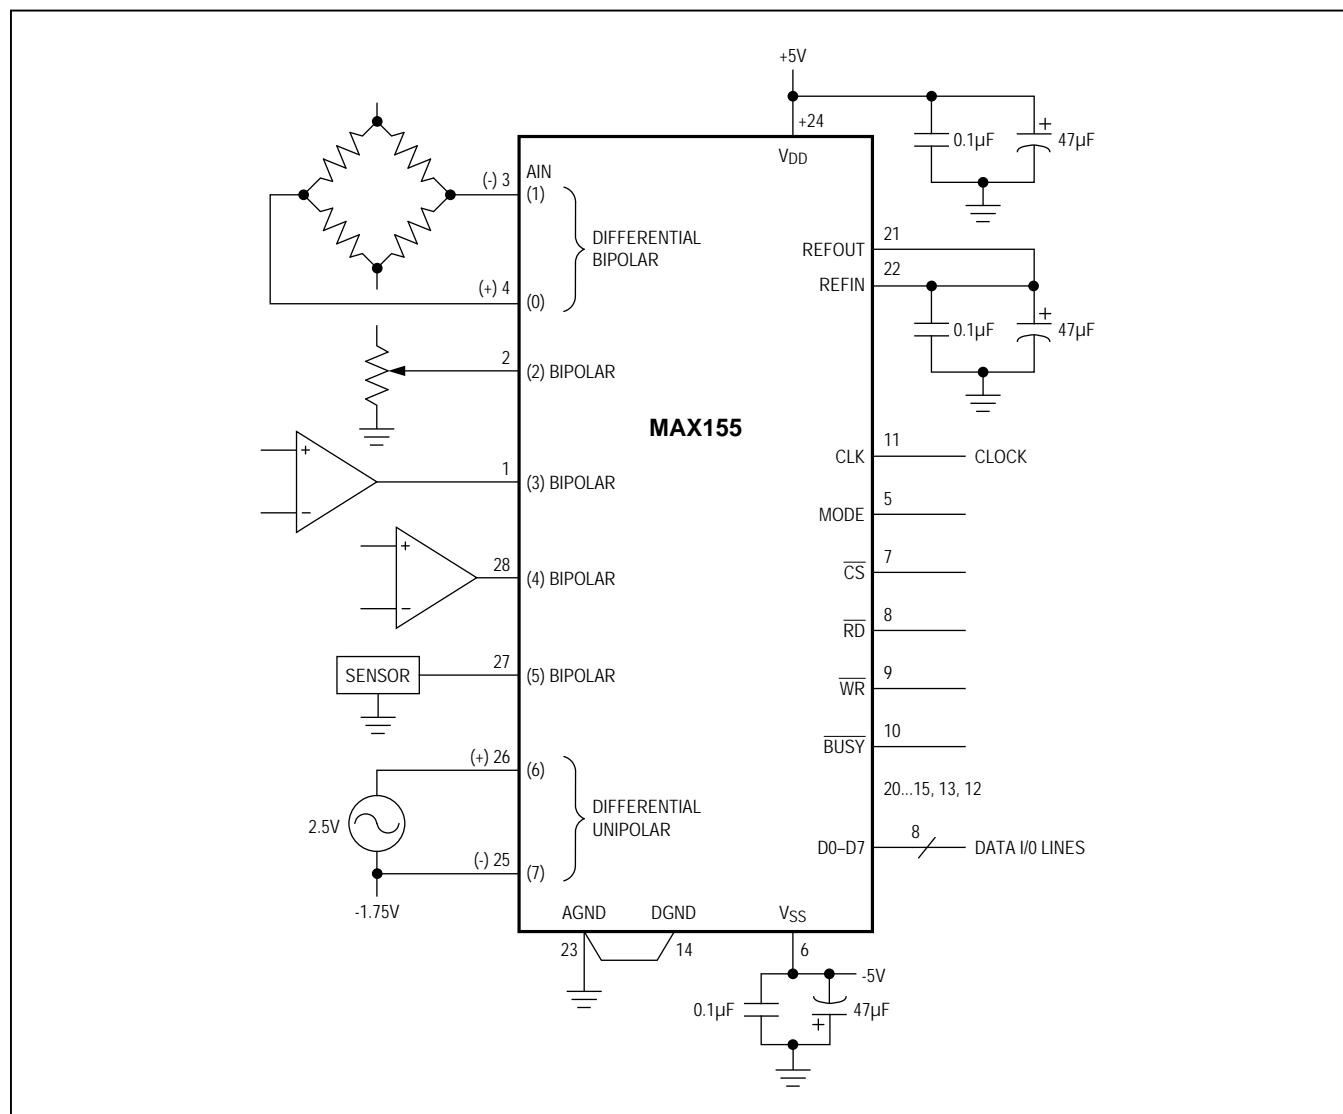

Figure 10. MAX155/MAX156 Typical Operating Circuit
where N is the number of channels converted. This includes one clock cycle of uncertainty. For a single channel and 5MHz clock, the conversion time is $(9 \times 1 \times 2) / 5\text{MHz} = 3.6\mu\text{s}$. For the MAX155, the maximum conversion time for 8 channels is $(9 \times 8 \times 2) / 5\text{MHz} = 28.8\mu\text{s}$. In the application example (Figure 10), six conversions are configured, and the conversion time is $(9 \times 6 \times 2) / 5\text{MHz} = 21.6\mu\text{s}$.
The MAX155/MAX156 address and configuration inputs for this example were determined by selecting the desired channel configurations in Tables 2 and 3. Figure 10 illustrates the configuration outlined in Table 5.
- 3) Data is read from RAM with $INH = L$ and consecutive \overline{RD} strobes. Note that in the 6 channel configurations described in this example (Figure 10), 6 \overline{RD} pulses access all available data, start with the differential channel (1, 0). Additional \overline{RD} pulses loop around, accessing the lowest channel data again.